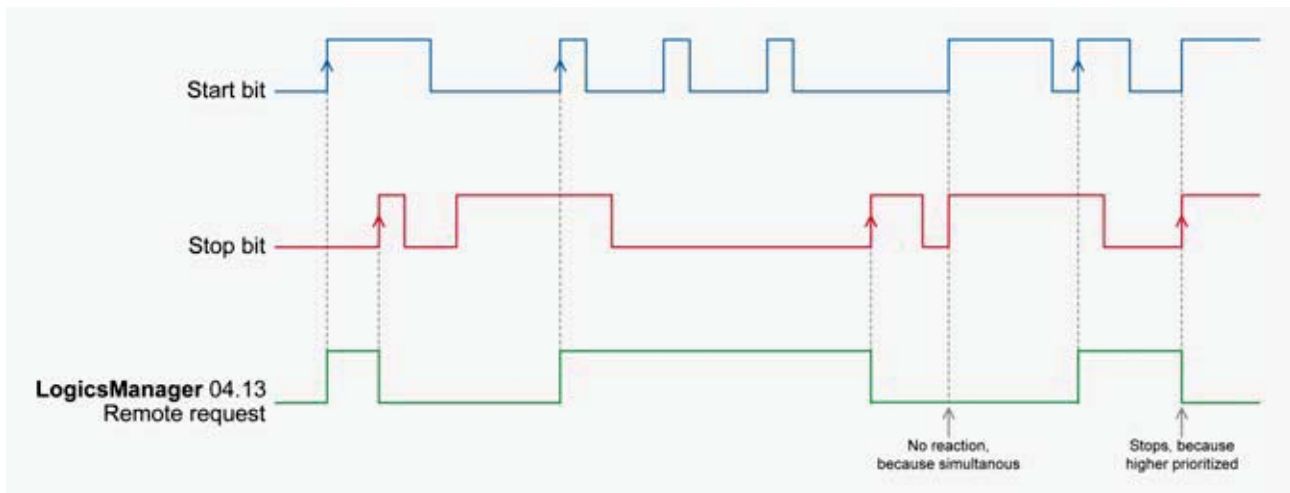

Fig. 179: Command variable
- The command variable "04.13 Remote request" changes to "0" (low) if the stop bit (ID 503, bit 1) changes from "0" to "1" (Fig. 179).